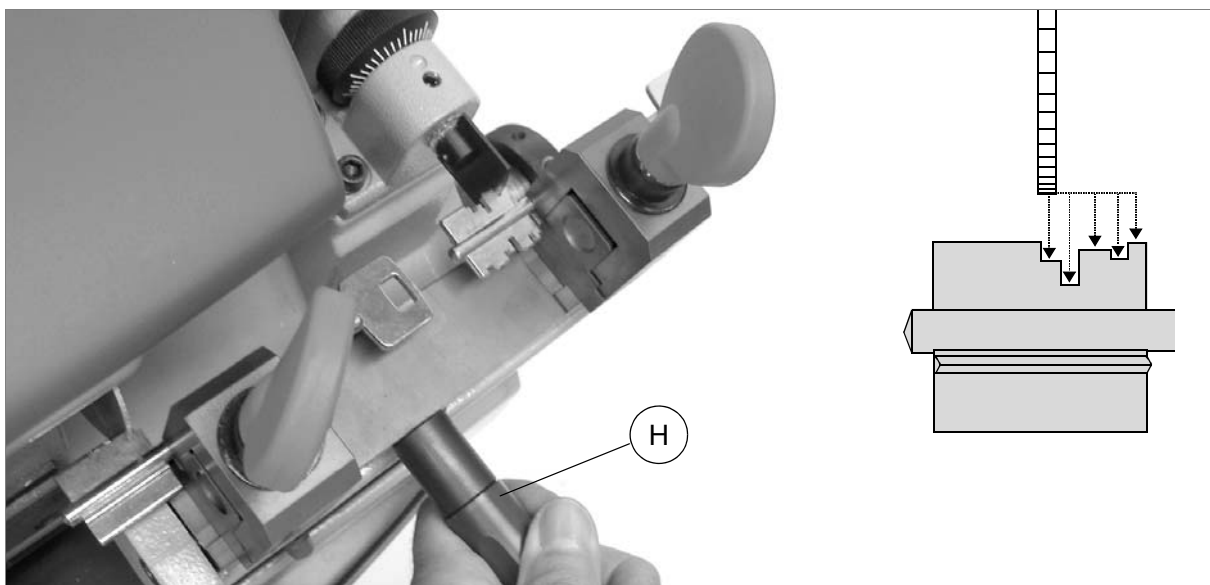

Fig. 41
- 6) Proceed with cutting (fig. 41); if necessary, activate tilting to flare the cuts (chap.8.1.5, page 22).
- 7) Raise the carriage with the handle (H) and take the original key into contact with the tracer point to carry out cutting.
- 8) Take the carriage back with the handle (H), go on to the next cutting position and continue from point 7.
- 9) When cutting is finished, turn off the switch (U) and remove the keys.